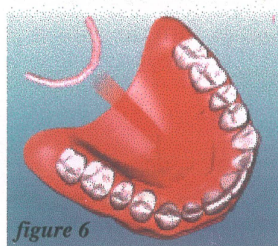

figure 6
6. Place the fiber into the repair area within the acrylic. See figure 6 When processing a **new denture**, tack the fiber to the teeth with self cure resin.